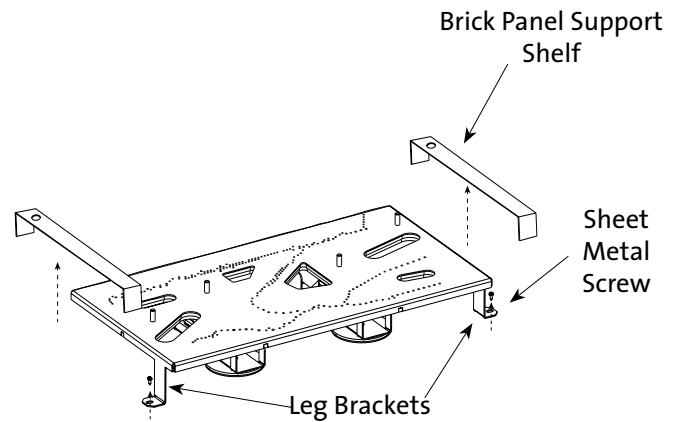

Figure 5.2. Pull the Burner assembly forward and up to disengage it from firebox.
5. Locate the two steel Panel Support shelves at the sides of the burner and lift to remove each from the firebox. See figs. 5.2 below and fig. 11.3, #22, page 33.
6. Locate and remove the sheet metal screws that secure the two Burner Brackets to the floor. Figs. 5.2